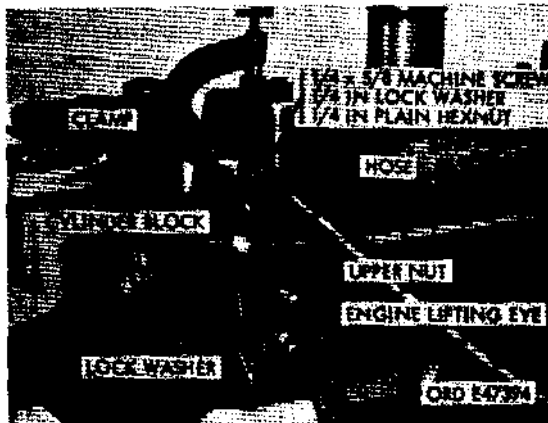

Figure 605. Hose clamp installed
- (13) Remove the upper nut and lockwasher from engine lifting eye (fig. 605). Secure hose clamp to cylinder block with nut and lockwasher. Secure hose to clamp as shown in figure 605.